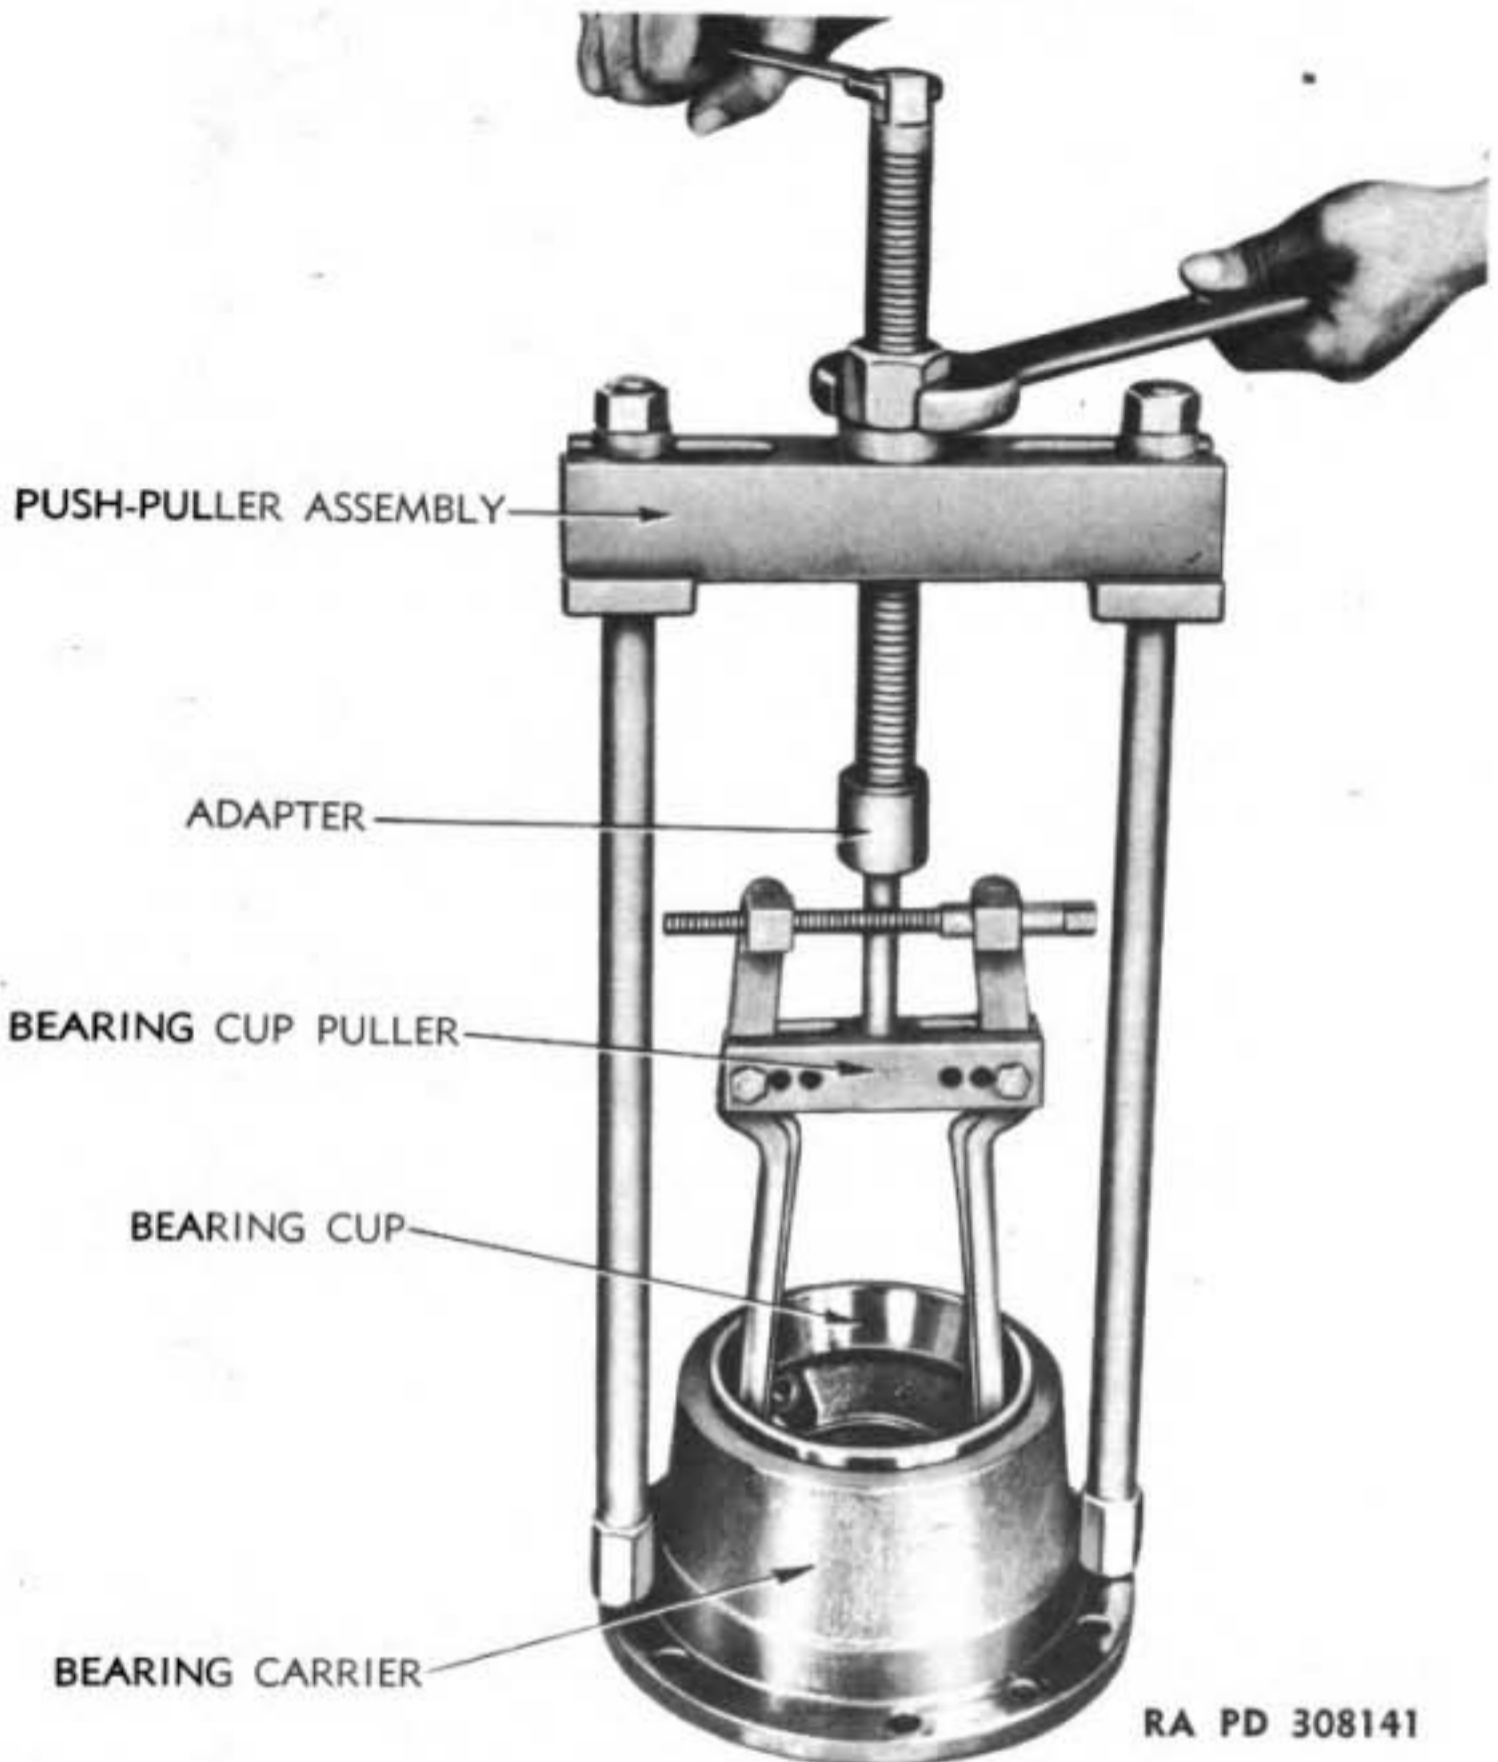

Figure 41 – Removing Bearing Cup From Bearing Carrier, Using Puller (41-P-2905-60)
f. Remove Bearing Cup and Oil Seals From Differential Bearing Carriers. Assemble bearing cup puller (41-P-2905-60) as shown in figure 41 and pull bearing cups from bearing carriers. Removal of the oil seals in bearing carriers will necessitate the installation of new seals as the old ones will be damaged.